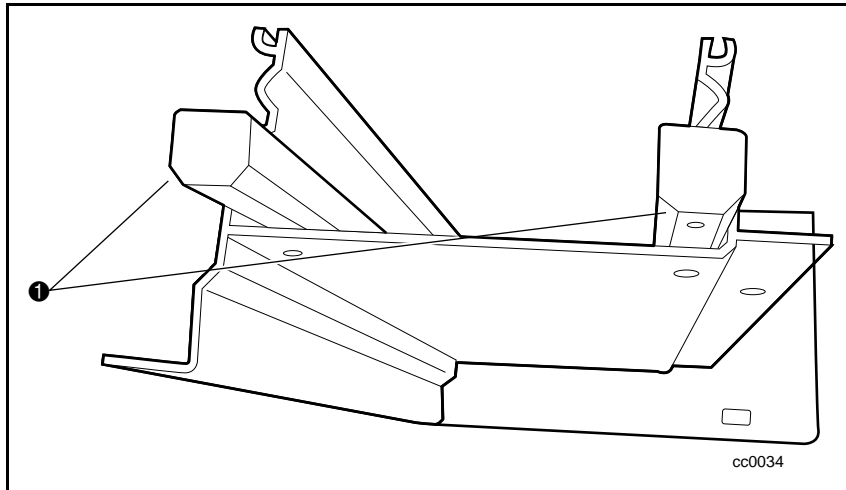

Figure C-15. Attaching tie bars
5. Attach the tie bars with the screws to the PTM extrusion, making sure that the beveled edges of the tie bars are oriented as shown in (1) Figure C-15). Use flat-head screws on the sides and pan-head screws at the rear.